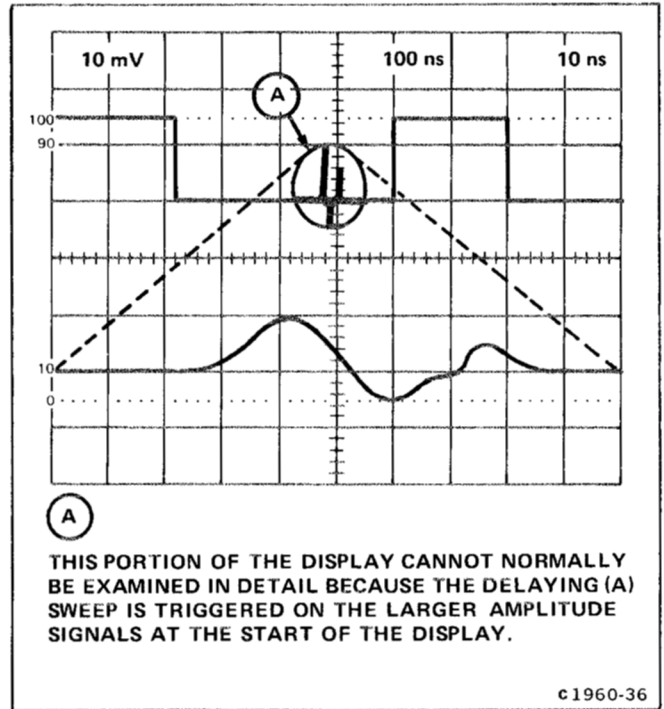

Figure 2-9. Magnifying a selected segment of the delaying (A) sweep in the delay-time mode with mainframe alternate or chopped horizontal operation.
5. To magnify a selected segment of the delaying (A) sweep waveform and determine apparent magnification in the delay-time mode:
- b. Set the appropriate triggering, position, deflection-factor, and sweep-rate controls for the desired dual-trace display. See the example in Figure 2-9.
- c. Turn the DELAY TIME control to position the intensified zone to the portion of the delaying (A) sweep waveform to be magnified.
- d. Set the delayed (B) sweep unit sweep rate to select the desired duration of the magnified display as indicated by the length of the intensified zone.
- e. Observe the magnified display on the delayed (B) sweep. See Figure 2-9.
f. Determine apparent magnification by dividing the 7B15 TIME/DIV setting by the delayed (B) sweep unit sweep-rate setting.
Example: The apparent magnification of the delayed (B) sweep shown in Figure 2-9 with a 7B15 TIME/DIV setting of .1 millisecond and a delayed (B) sweep unit sweep-rate setting of 1 microsecond is: